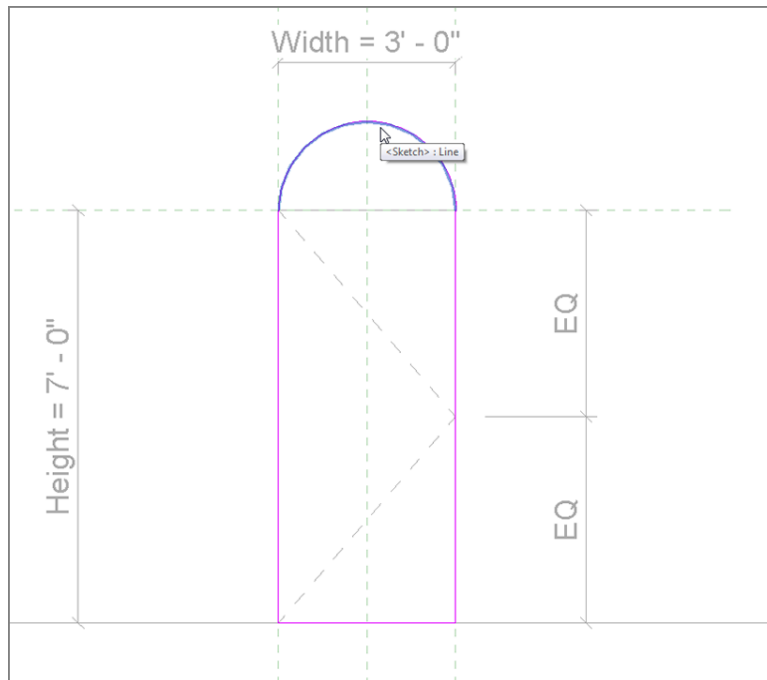

FIGURE 17.15: Rounding off the door top
9. Draw an arc, as shown in Figure 17.15.